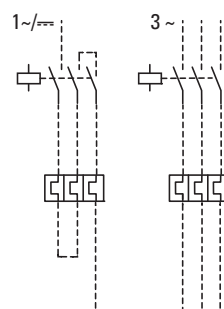

Figure 13: Main circuit wiring
► Connect the motor cables as shown in → Figure 13.